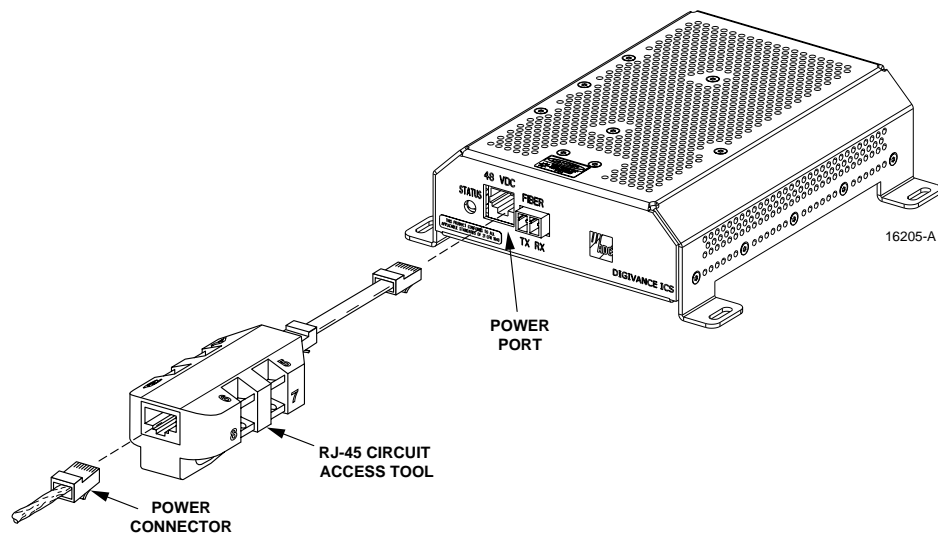

Figure 27. Connect RJ-45 Circuit Access Tool
2. Connect the RJ-45 circuit access tool to the DRU as shown in Figure 27.
3. Connect the DC power cable to the RJ-45 circuit access tool (see Figure 27).